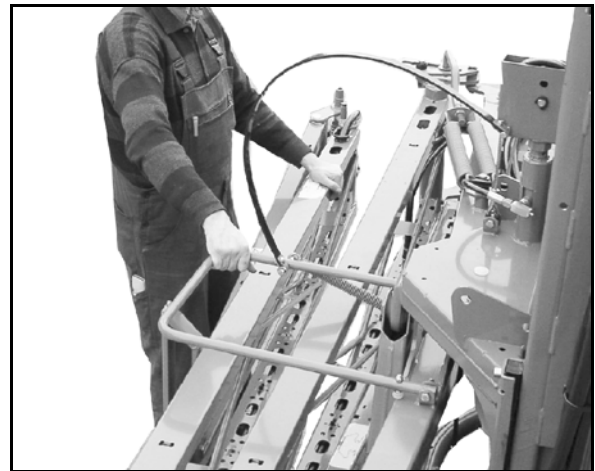

Fig. 77
1. Unlock the transport safety catch by lifting the bar (Fig. 77).